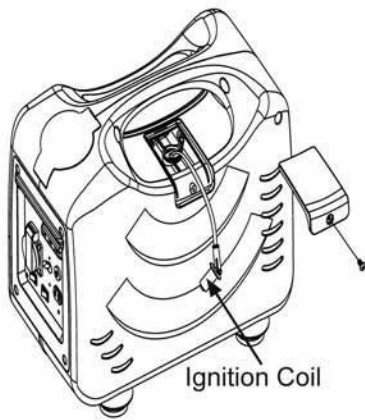
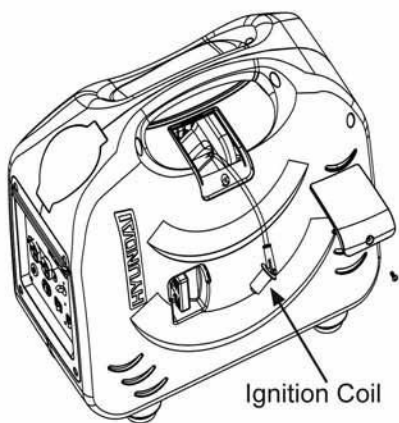

Fig. 5.7
Fig. 5.8
2. Remove the ignition coil (Refer to Fig. 5.7 for HY1000Si and Fig. 5.8 for HY2000Si HY3000Si)